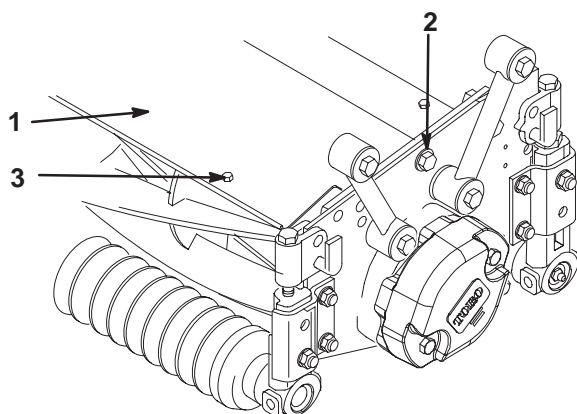

Figure 2
2. Loosen pivot screw securing shield to side plate. Move shield to desired angle and tighten screw (Fig. 2).